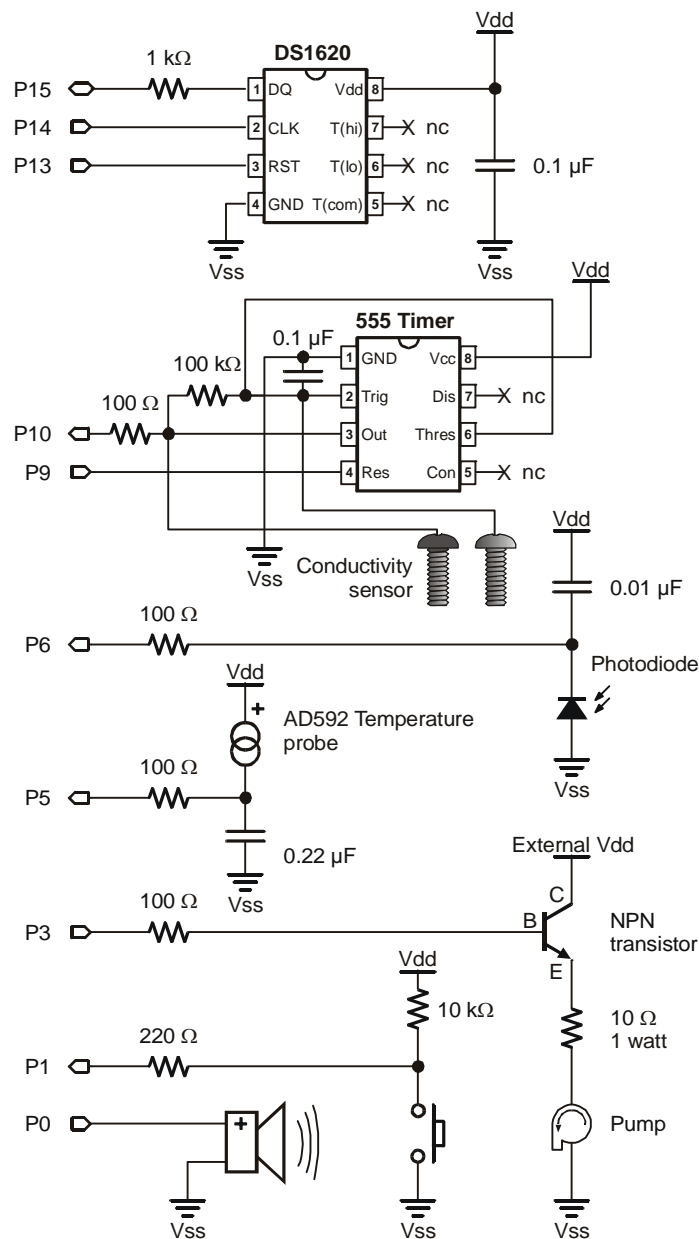
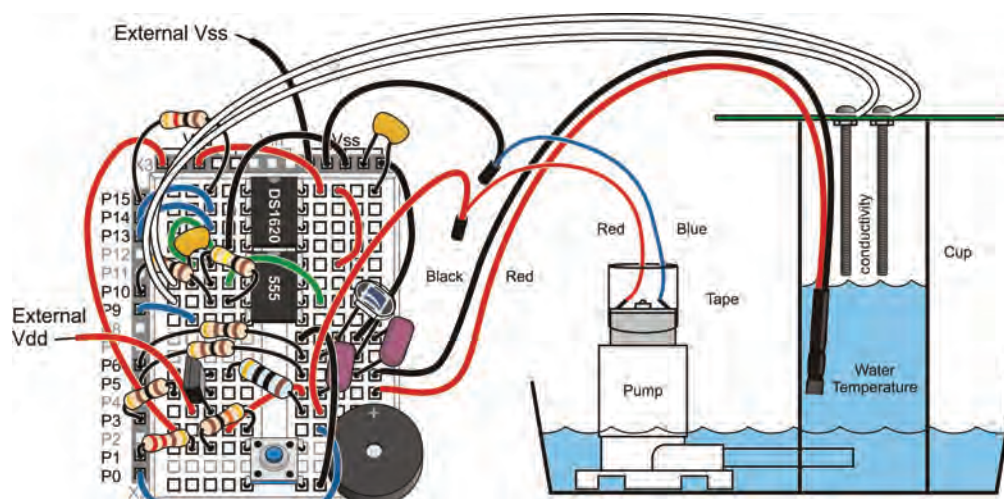

Figure 6-2
Figure 6-3: Pump Control with Transistor Wiring Diagram
- ✓ Follow the schematic in Figure 6-2 and the wiring diagram in Figure 6-3 to add the transistor and pump circuit to your board.
- ✓ As shown in the schematic in Figure 6-3, connect the collector of the transistor to the external regulated 5 VDC 300 mA power supply.
- ✓ For the moment, lay the conductivity sensor aside, but it will rest across the rim of the cup as shown in Figure 6-3 later on in the experiment.